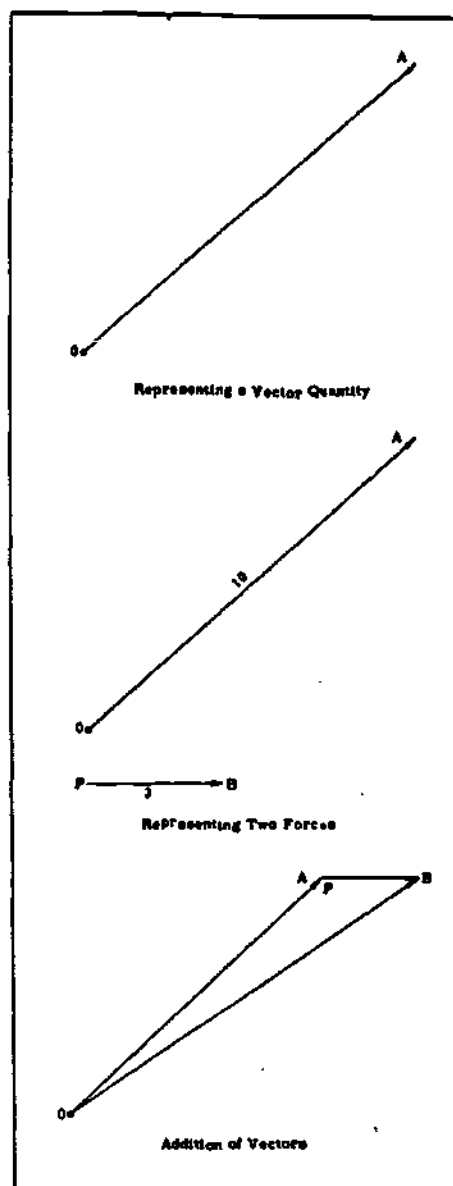

Figure 22. Vector Quantities
a. **Representing a Vector Quantity** - A vector quantity may be represented by a line segment. The length of the line indicates the magnitude and its angular position and an arrow point indicates the direction as shown in Figure 22. Usually this vector is called the vector **OA**. Other common notations, to indicate vector quantities, are **M**; **M** and **M**.